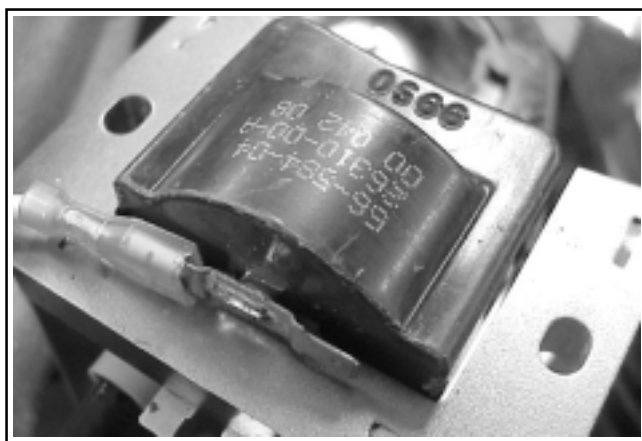

Figure 11-82. Ignition Module Kill Lead Mounting #2 Side.
2. Route the white kill leads from the wiring harness and connect them to the "kill" tabs of the ignition modules. See Figures 11-82 and 11-83.